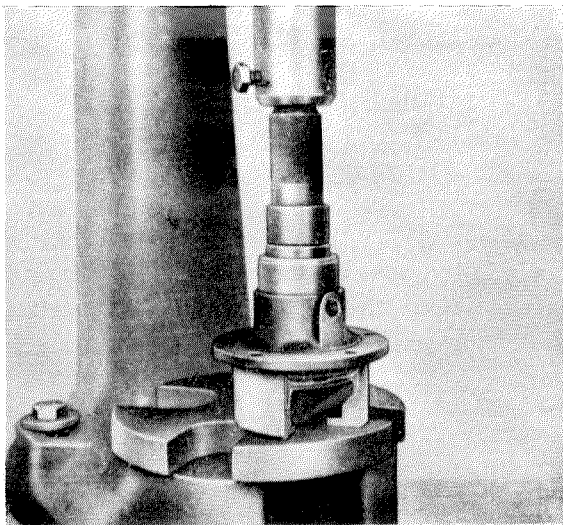

Fig. 20 — 5/6
Then fit the annular grooved bearing (10) on the shaft and use Fitting Sleeve 187 589 04 39 to press it into the housing (Fig. 20 — 5/6).
13. After the annular grooved bearing has been forced into the housing, the distance from the bearing housing flange to the oblique face of the impeller must be checked. It should be $= 23 \pm 0.2$ mm (see Fig. 20 — 5/1).